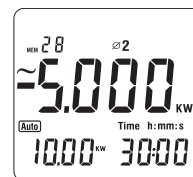

Figure 29
4. Press **SELECT** to choose one of the three phases ($\varnothing 1$, $\varnothing 2$, $\varnothing 3$), see figure 29.